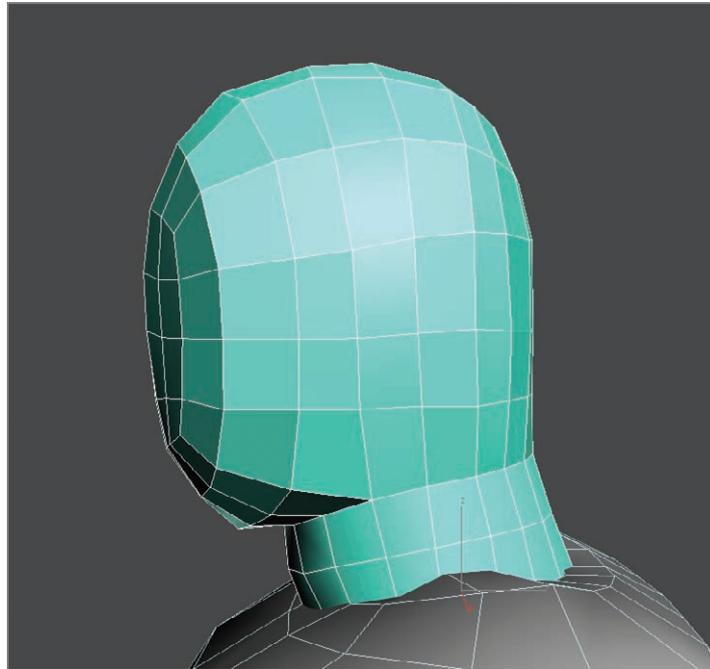

FIGURE 9.18 Move edges or vertices to evenly space the edges.
- Now that the head is complete, take the time to move the edges and vertices to more evenly space out and clean up the topography (which is the flow and organization of edges on a given 3D model) of the head, as shown in Figure 9.18.